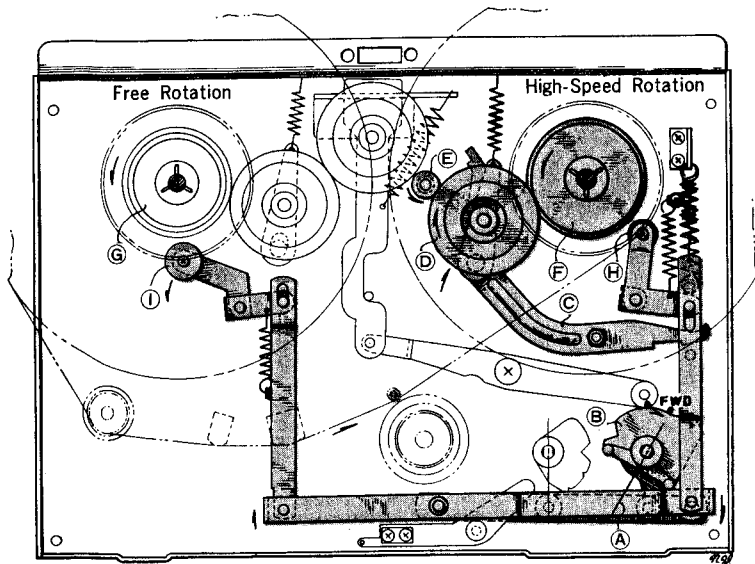

Fig. 3
Turn the *FAST FWD-REWIND knob (A)* in "FAST FWD" position, and the *cam (B)* under the knob pushes up the *Lever (C)*. The *Idler (D)* moves into the space between the *Plastic Roller (F)* above the *Take-Up Reel Spindle* and the upper part of the rotating motor drive bushing to transmit the motor rotation to the take-up reel spindle. At the same time, *Brake Rollers (H)* and *(I)* come off the reel spindle to free the *Supply Reel Spindle (G)*, thereby allowing fast winding of the tape onto the take-up reel. (See figure 3)